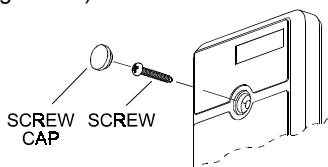

Figure 5-1. Separating the Cover from the Base
A. Remove the cap and the screw securing the box cover to the base (see Figure 5-1).